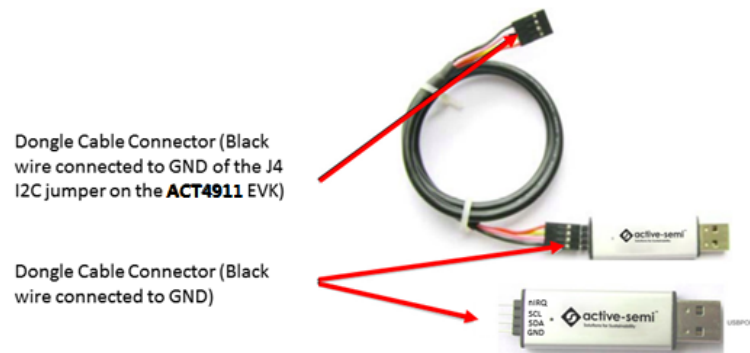

Figure 3 – USB-TO-I2C Dongle Connection
3. Connect the USB-TO-I2C dongle to the EVK J4 connector. Refer to Figure 3 to ensure the correct polarity of the connection. As a guide, use the “Active-Semi” logo on the top of the dongle so the black wire is connected toward the lower left corner of the Dongle.